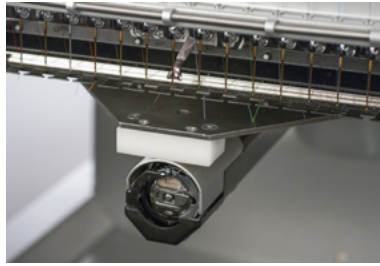

Figure 2 - X/Y-Home Fixture in Needle Plate Hole
7. Align the fixture pin over the needle plate hole and push the front of the fixture down until the pin on the bottom of the fixture front block is firmly seated in the needle plate hole as shown in Figure 2 above.